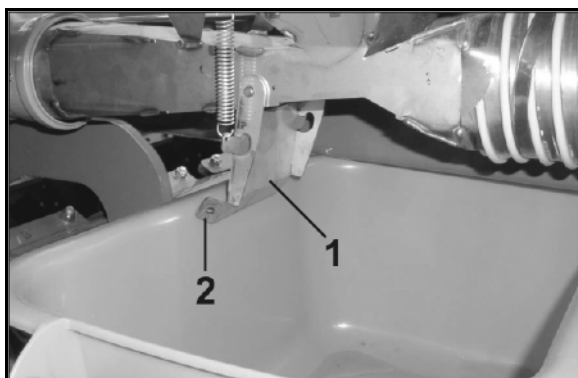

Fig. 115
- Keep the stop tap (Fig. 115) in Position **B**,